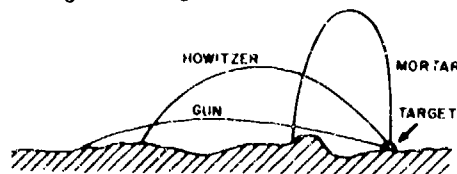

Figure 2-30. Firing trajectories of field artillery weapons.
(2) The rifling in the towed 105-mm howitzer M102 has an increasing right-hand twist, increasing from one turn in 35 calibers at the breech end to one turn in 18 calibers at the muzzle end. The increased spin imparted to the projectile with this type of rifling makes possible greater ranges with increased accuracy.
c. Cannon artillery weapons are classified according to their trajectory, range, and muzzle velocity. The muzzle velocity is the speed of the projectile as it leaves the muzzle; it varies with the type of weapon and with the type and quantity of propellant. The general classification data for typical trajectories are shown in figure 2-30.